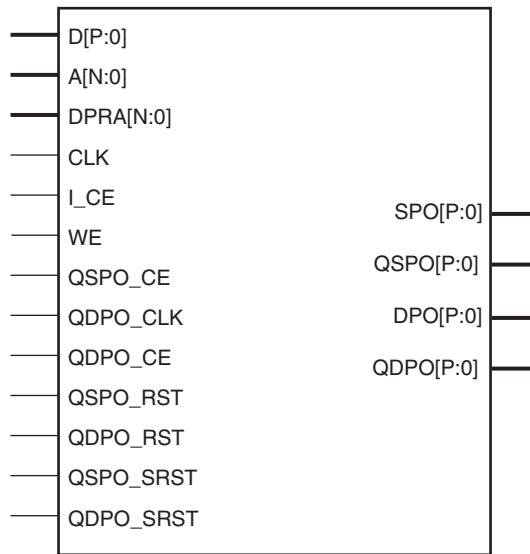
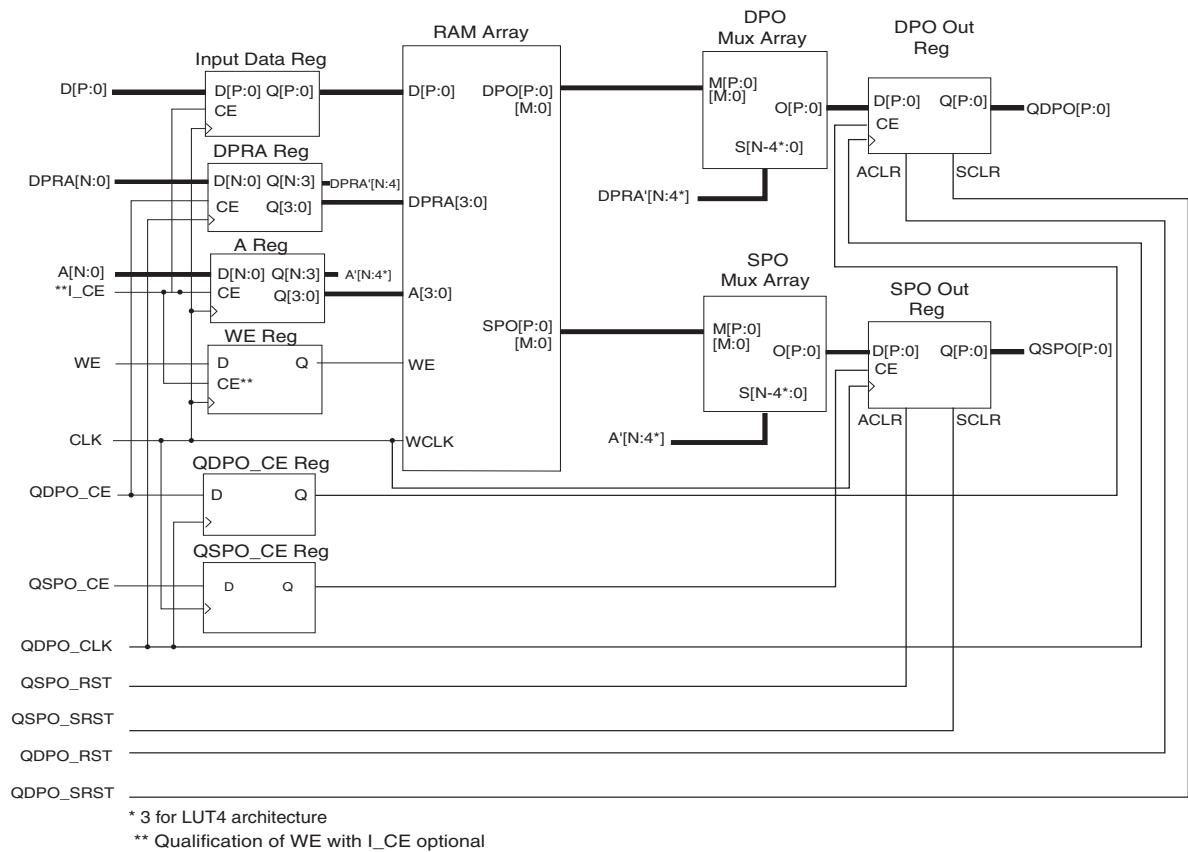

Figure 5: Dual-Port RAM Schematic Symbol
Figure 6: Dual-Port RAM Module Schematic
Writes to the distributed dual-port RAM are synchronous to the clock (CLK). However, read operations from the distributed dual-port RAM can be asynchronous or synchronous with respect to either of the two clocks (CLK or QDPO_CLK). Figure 5 illustrates the dual-port RAM schematic symbol, showing the relevant ports. Figure 6 shows the internal implementation of the distributed dual-port RAM. If a pipeline register is added to a registered core (not illustrated), the additional register is re-timed into the SPO MUX array and DPO MUX array.
- **Dual-Port RAM.** Figure 6 illustrates a schematic of the structure of the dual-port RAM modules. The address and data registers are optional (controlled by the setting of the Input Options parameter). The dual-port read address register is optional (controlled by the setting of the Dual-Port Address parameter). Output registers for both output ports are also optional (controlled by the setting of the Output Options parameter). When registered outputs are selected, the two output ports can be clocked by the same or different clock signals and can have the same or different clock enables (based on the settings selected for the Common Output Clock and Common Output CE parameters). All resets and clock enables are optional. Note that the clock CLK is always required, because writes to the RAM are synchronous to that clock.